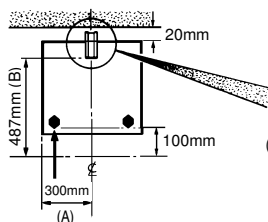
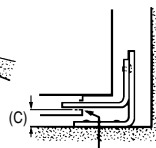

Fig.3a.
Fig.3b.
2. Mark off 300mm from the left hand side of the appliance as shown in dimension 'A', Fig 3a. This is the centre line of the fixing bracket.
3. Draw a line 100mm from the front edge of the feet (see Fig.3a) and remove appliance from its position. Mark off dimension 'B' (see Fig.3a) back from this line on the centre line of the bracket to locate the front edge of the lower bracket. Fix lower bracket (with two fixing holes) to the floor then measure the height from floor level to engagement edge on back of appliance, dimension 'C' of Fig. 3b.
4. Assemble upper bracket to lower bracket so that the underside of bracket is dimension 'C' + 3mm above floor level. (See Fig. 3b)
Reposition appliance and check that top bracket engages into appliance back as shown in Fig. 3b.